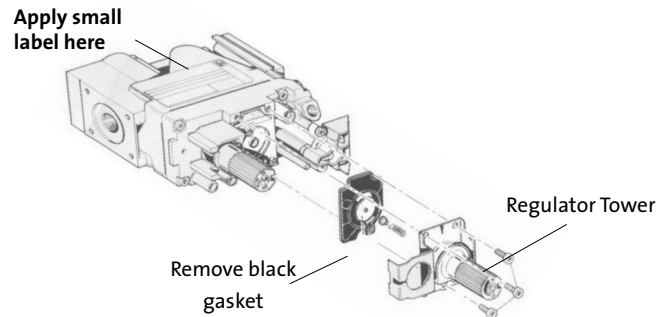

Figure 29. Regulator assembly.
- regulator tower labeled for either LP or NG (1)
- regulator tower screws (3)
- Small Fuel ID label - Apply to valve body (See fig.29).
- Pilot Orifice, (1) - #51 for NG / #30 for LP
- 11. Replace the Valve Regulator.** Using a Torx T-20 screwdriver, remove the screws from the front of the regulator. Remove the regulator components and replace with the one from the conversion kit. See fig. 29.